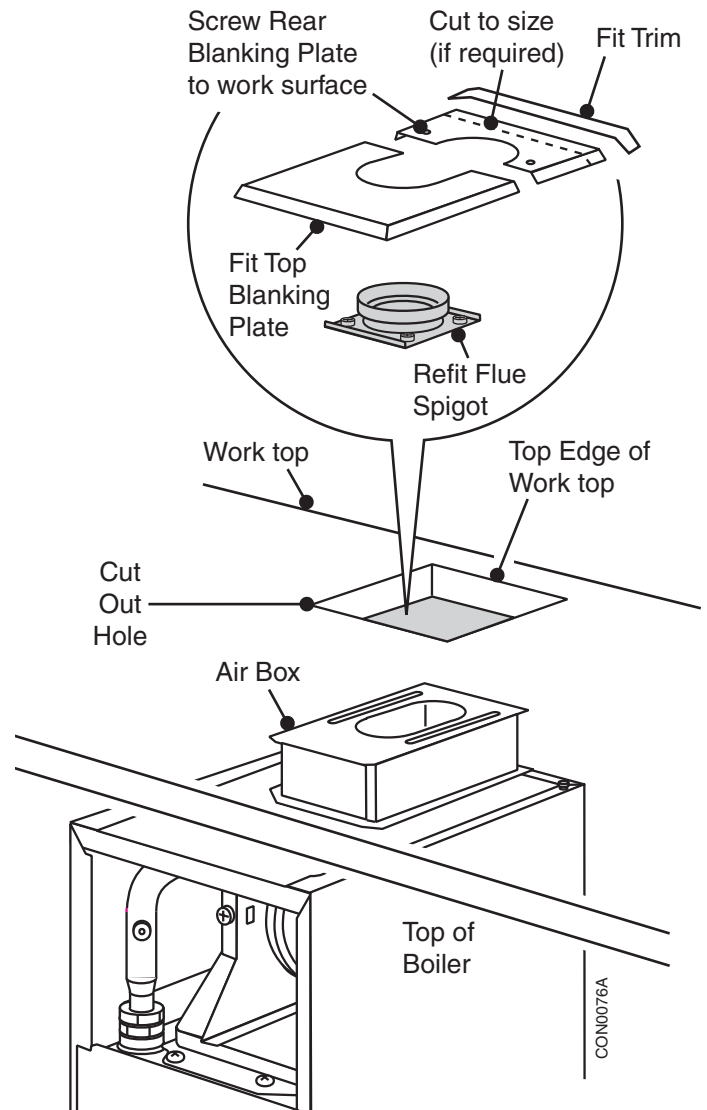

Fig. 15
- If the flue is not fitted in the fully forward position, the rear blanking plate will need to be cut to size, cut trim to length as required. See Fig. 15.
- Locate the top blanking plate as shown in Fig. 15.